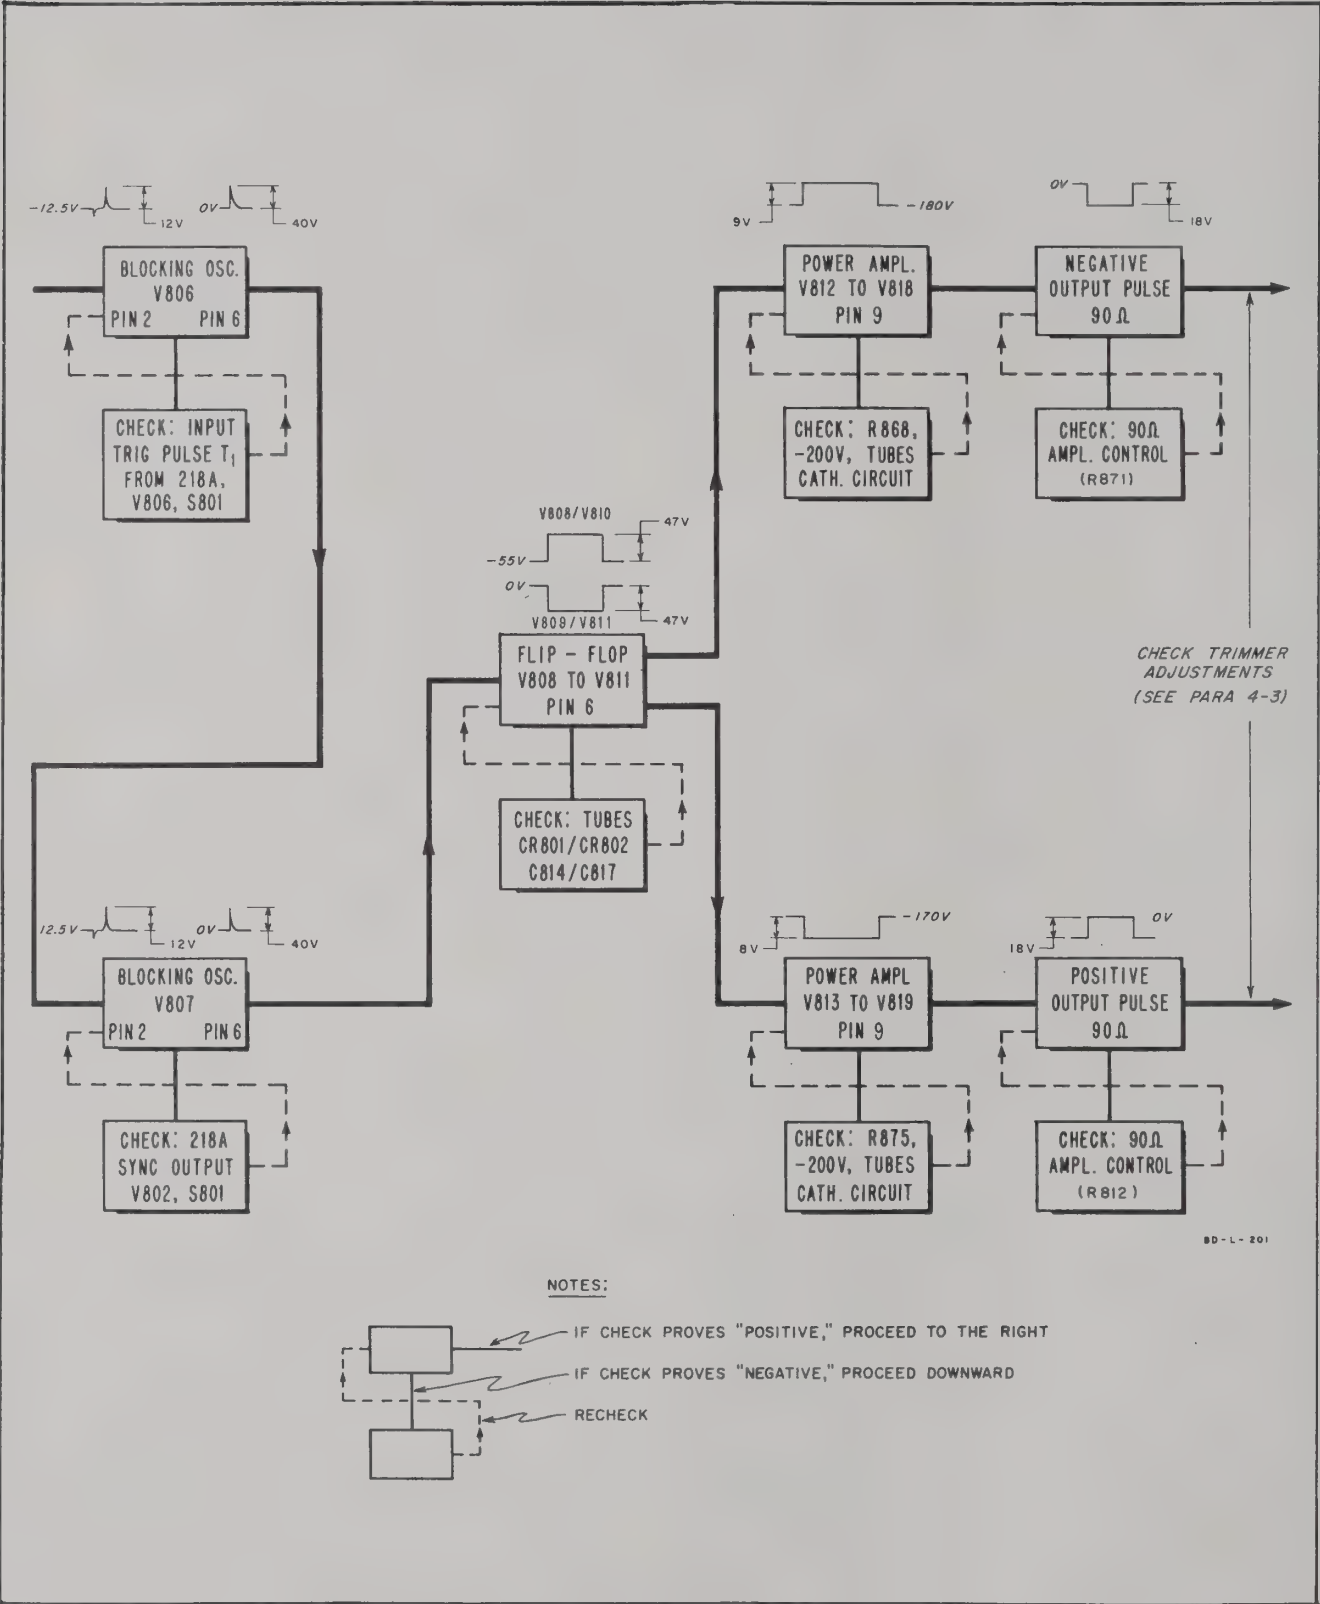

Figure 4-2. Trouble Localization Chart
All four adjustments are done with the same measurement setup as shown in Figure 4-2. For the settings of the various controls see also Fig. 4-1.
The trouble localization chart of Figure 4-2 leads systematically through the circuit, indicating the approximate signal amplitude and referring to components possibly causing the trouble symptom.
- (5) Connect oscilloscope probe to VERTICAL INPUT and check the points indicated on Fig. 4-2.
The chart Figure 4-2 is read as follows: